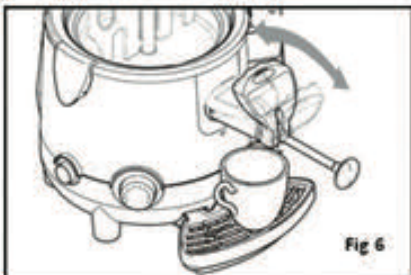

Fig 6
- Push or pull the lever on the tap until the required amount of product has been poured into the cup (Fig 6).